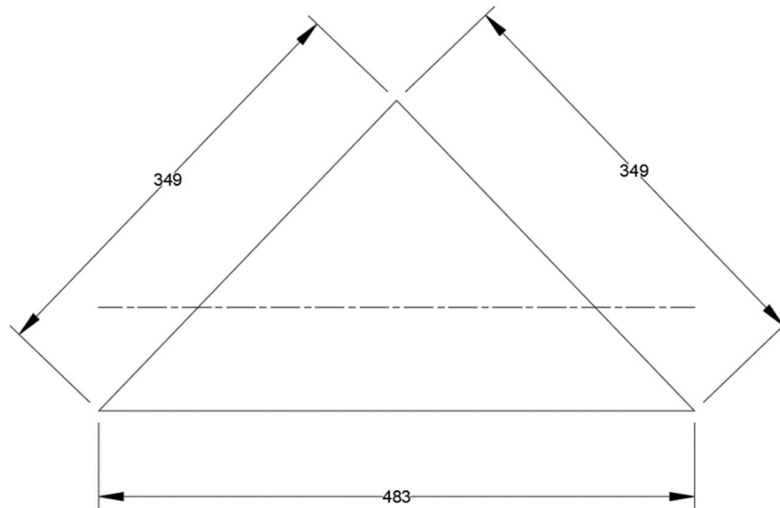

Figure Q5b
- Q.5(b) Determine the shape factor of triangular section shown in Fig Q5b about the axis shown [5] 4 3